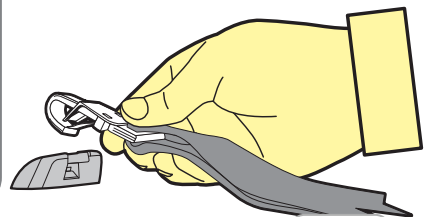

Figure 8
Step 7: Hook the attachment clip to the upper anchor fitting (refer Figure 8).